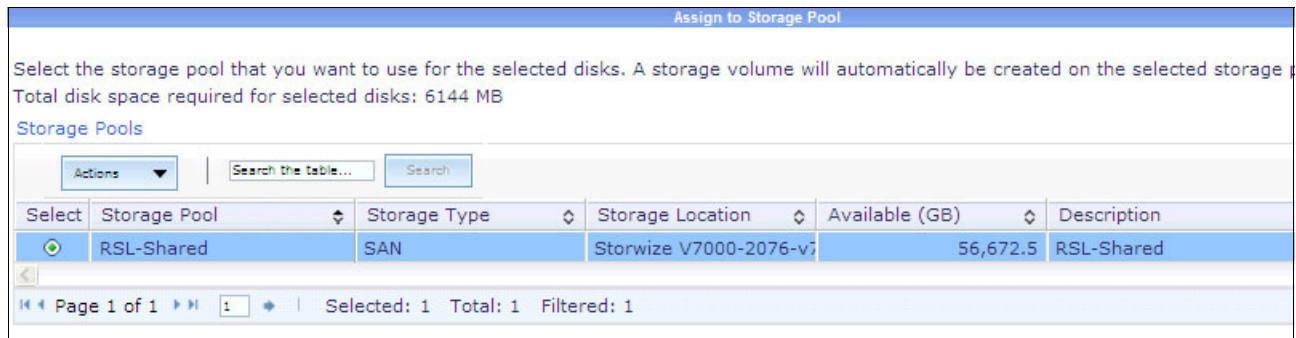

Figure 9-131 Selecting the storage pool
- Select the storage pool that you configured previously, as shown in Figure 9-131, then click **OK**.